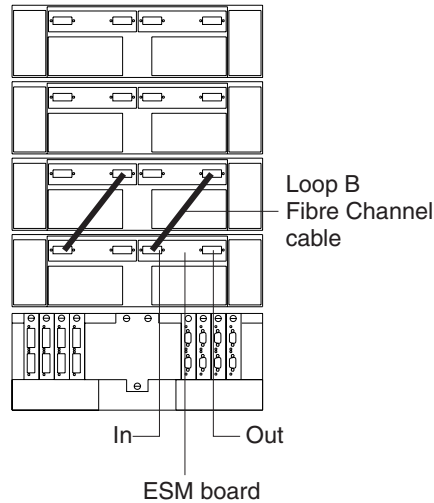

Figure 31. Connecting two storage expansion enclosures into redundant drive loop B
2. Connect the same first two storage expansion enclosures to drive loop B, as shown in Figure 31 on page 34.